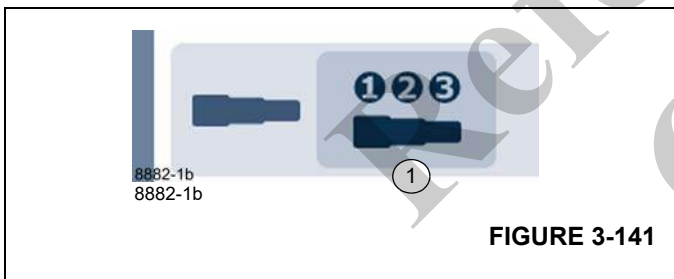

FIGURE 3-141
To open: Select symbol (1), (Figure 3-141) and confirm – menu is opened.